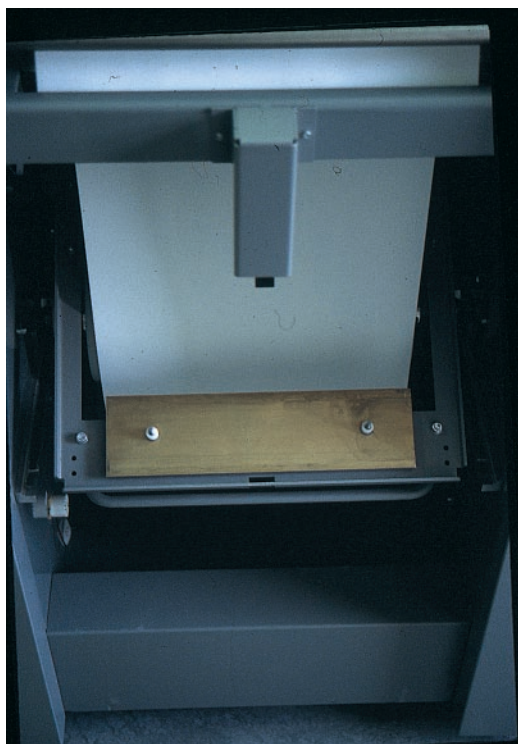

Figure 210. Mount the Weights
3. Mount the proper weights, as shown in Figure 210.